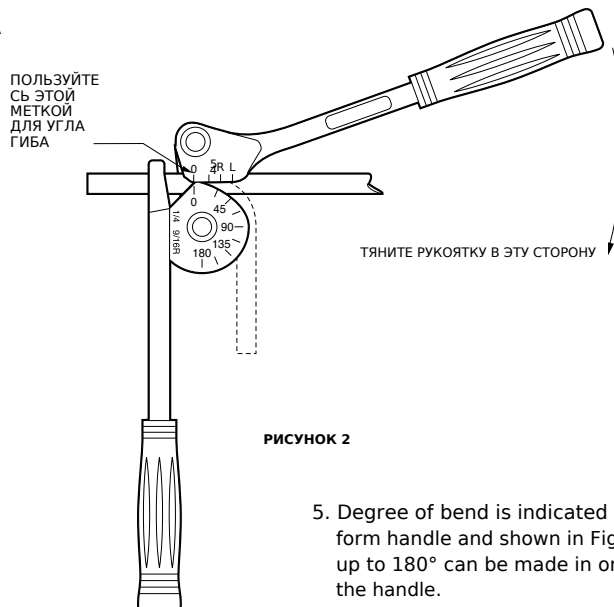

РИСУНОК 2
3. Lower the form handle to position shown. (Fig. 2)
5. Degree of bend is indicated by mark on form handle and shown in Fig. 2. Bends up to 180° can be made in one sweep of the handle.